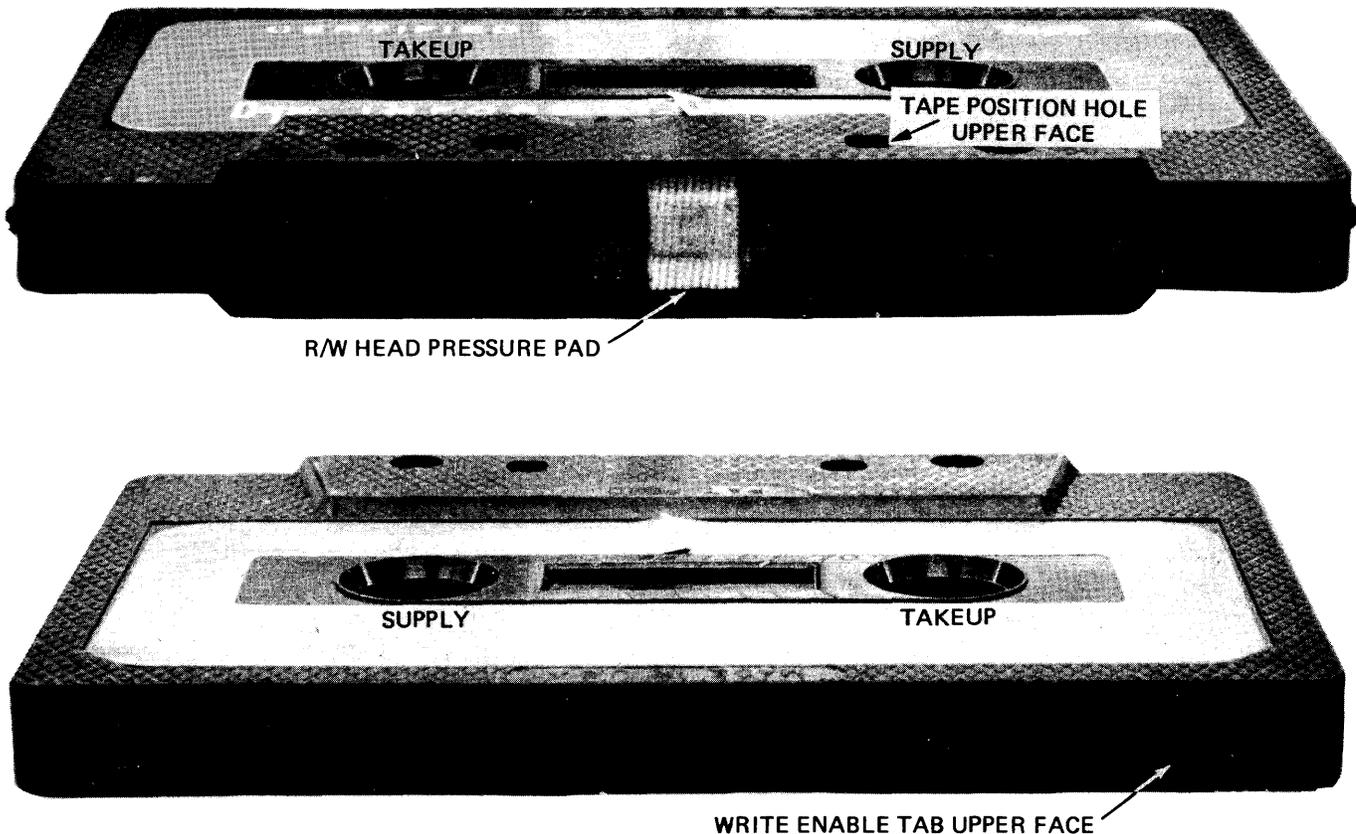

Figure 1-2. Cassette Tape Cartridge
There are no controls provided with the cassette unit. Control functions are represented by signal levels at the unit interface connector J2 and any manual controls associated with these signal levels would be a part of the controlling device. The ready status (RS) indicator on the cassette unit is controlled by the input level RL/ from the device to which the cassette unit is interfaced. The write status (WS) indicator is internally activated when the write circuits are enabled by the presence of a write tab on the cassette tape cartridge (see figure 1-2).
Write enable tabs are located on the back side of the cassette tape cartridge (see figure 1-2). The cartridge can be inserted with either side up, so there are two write enable tabs. When looking at the back side of the cartridge, the tab on the right side is for the upper face. To enable the write circuitry, the tab must be moved to cover the hole adjacent the tab.